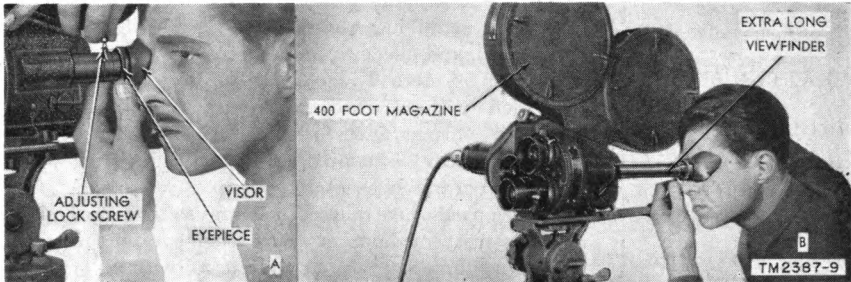

Figure 9. Focusing viewfinder eyepiece.
a. GENERAL. The optical system of the camera provides for viewing the scene in an upright, correct right-to-left position while being photographed. The adjustment of the viewfinder lens is required only when necessary to compensate for individual variations in the operator's eyesight. When the 400-foot magazine is used, it may be more convenient to substitute the longer viewfinder (B, fig. 9) for the shorter viewfinder (A, fig. 9).
(1) Remove the lens in the photographing position (par. 8).
- (2) Loosen the focusing tube adjusting lock screw (fig. 9) and, while looking through the viewfinder lens, slide the eyepiece back and forth until the cross marks in the center of the ground glass are sharply in focus.
- (3) Tighten the adjusting locking screw.
- (4) Replace the lens in the photographing position.